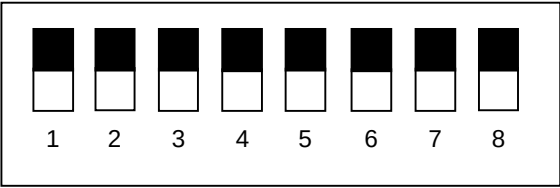

Figure 6.6.2 DIP switches (Being set for Standard setting)
- (2) Perform as the procedure shown below.
(3) Set the DIP switch No.4 as shown in Figure 6.6.2.